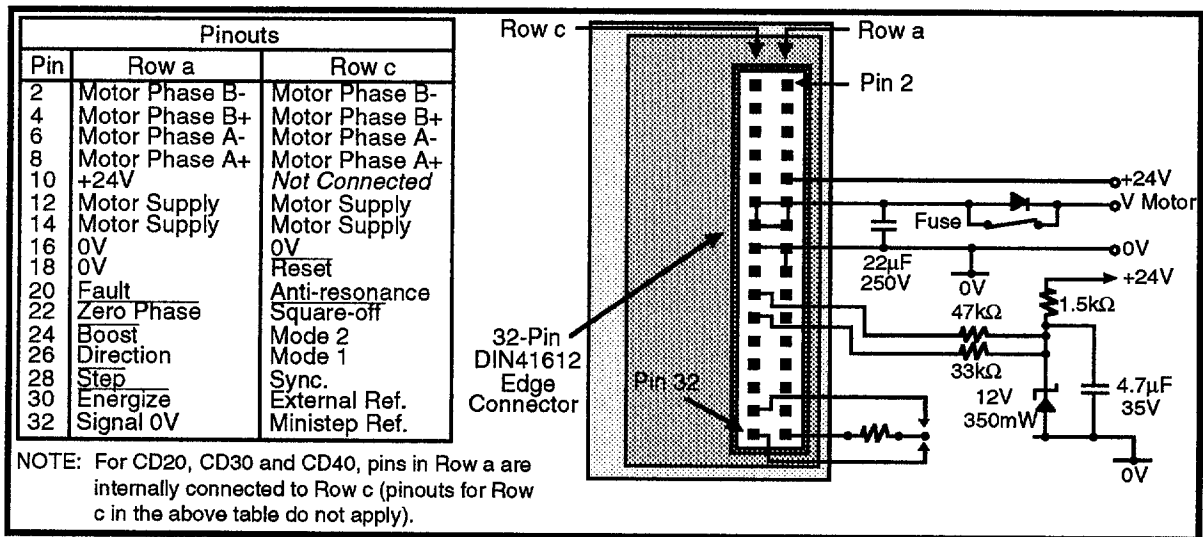

Figure 2-1. Edge Connections (Stand-alone Drive)
Figure 2-1 illustrates the pinouts on the edge connector located on the back of the drive. When you purchase a *drive only* module, a mating solder-type connector is provided to make user connections. When making your connections, be sure to consider the following points:
- The motor supply to the drive should be protected by a *fast-blow* fuse with a reverse bypass diode. This ensures that if the fuse fails there is a return path for regenerated current back to the supply capacitor (see Figure 2-1). Use a 5A fuse for CD20, 25, and 25M drives. Use a 10A fuse for CD30, 35, and 35M drives. Use a 15A fuse for the CD40.
- A local decoupling capacitor (22µF, 250V) must be installed across the motor supply as close as possible to the drive edge connector (see Figure 2-1).
- For CD25, 25M, 35, and 35M drives, the anti-resonance and square-off inputs (pins 20c and 22c respectively) need 47kΩ and 33kΩ (respectively) pull-up resistors to +12V. These components determine the cut-off speed of the corresponding function. They are external to the drive for ease of modification. Since the required pull-up voltage is not available on the edge connector, it must be generated from +24V by a zener diode as illustrated in Figure 2-1.
- You can set the drive output current to the motor using a single resistor. Refer to Table 2-2 for current selections. *NOTE: This resistor is connected between pin 32a and pin 30c on CD25 and 35 drives, or between pin 32a and pin 32c on CD25M and 35M drives (see Figure 2-1).*